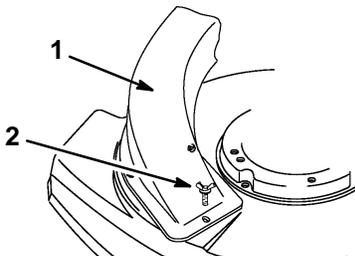

**Figure 37**
- 5. Insert the chute support rod through the hole in the right side of the deck (Fig. 37).